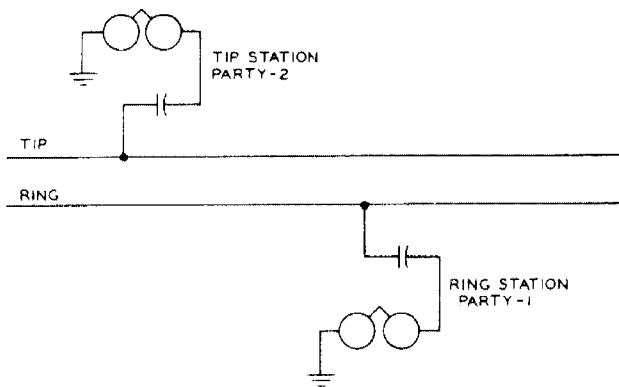

Fig. 2 — Two-Party Full Selective Grounded Ringing
3.03 Two-party full selective ringing (Fig. 2) is accomplished by connecting a ringer, in series with a capacitor, from each side of the line to ground.